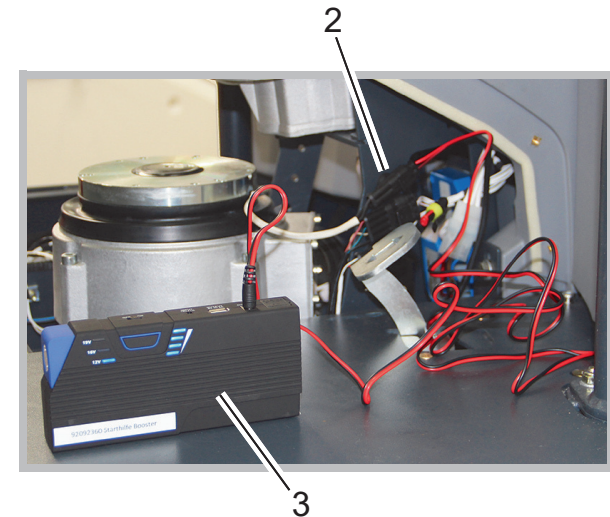

Fig. 2
2. Disconnect the top 2-pin plug connection of the travel drive (Fig. 2/1).
3. Connect the adapter cable to the power bank and the plug connection of the travel drive (Fig. 2/2).
4. Switch on the power bank (Fig. 2/3) and set it to 19 V. To do so, press the push button until the 19 V range is selected.